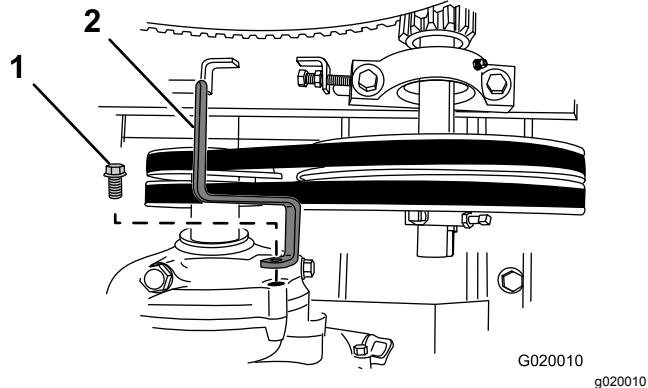

Figure 65
- Remove the bolt that secures the belt guide to the engine, and remove the belt guide (Figure 65).
10. Loosely secure the belt guide to the engine (Figure 65) with the bolt that was removed in step 6 of Removing the Belts \(page 42\).